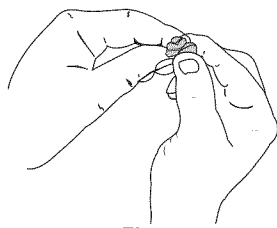

Fig. 17
- Squeeze the filter to spread and remove excess oil (Fig. 17).